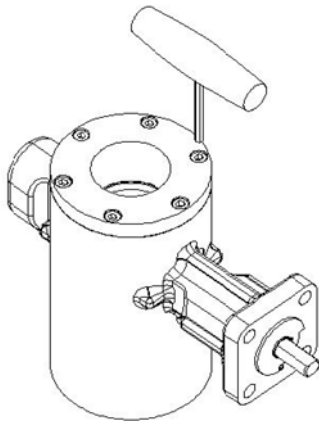

FIGURE 1
2. Unfasten the six (6) cap screws from the end of the valve (Fig. 1)